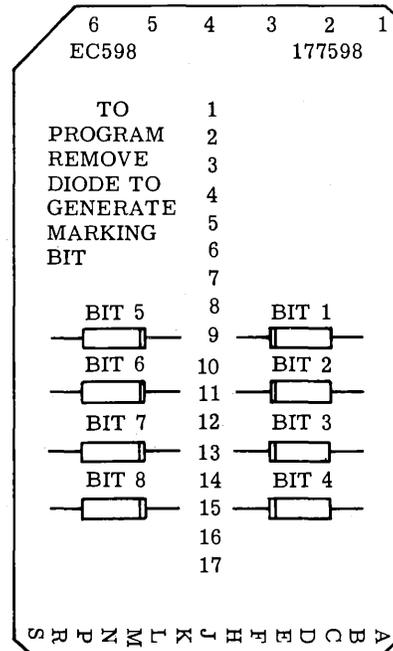

Figure 1 - Universal Programming Card
2.14 For special codes not programmed into the test set, the FUNCTION switch can be placed to EXT, and special matrix cards (TP177598, Figure 1) can be inserted into the EXTERNAL PROGRAMMING jacks, CHARACTER 1, and CHARACTER 2.